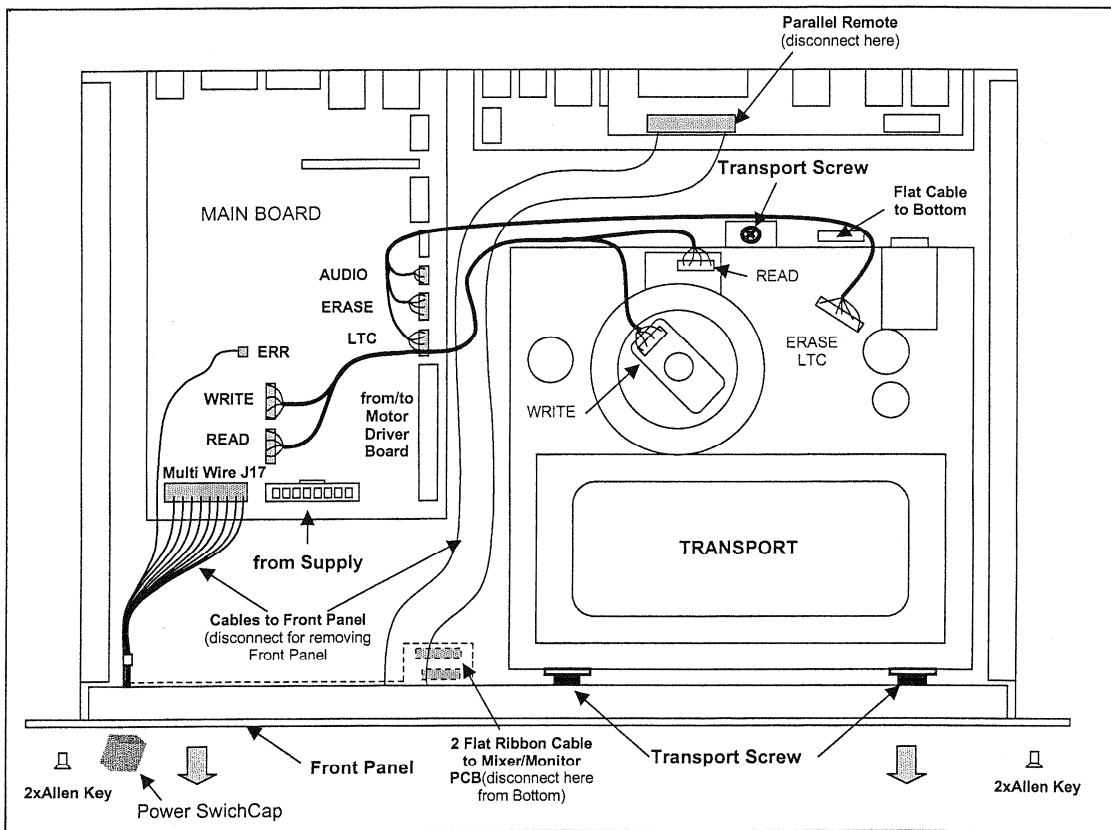

Figure 2 - Cable and Connector Placement (top side access)
2. Disconnect the two flat ribbon cables at the bottom side (Monitor/Mixer PCB see Figure 2) first and three cables at the top (one ribbon cable to the Parallel Remote Connector Board to back panel, one multiwire cable J17 and a single wire [orange colored, ERR] to the Main Board). The frontpanel is unwired now.
5. Disconnect following cables to the drive, which are accessible from the top (refer to Figure 2 see Main Board):